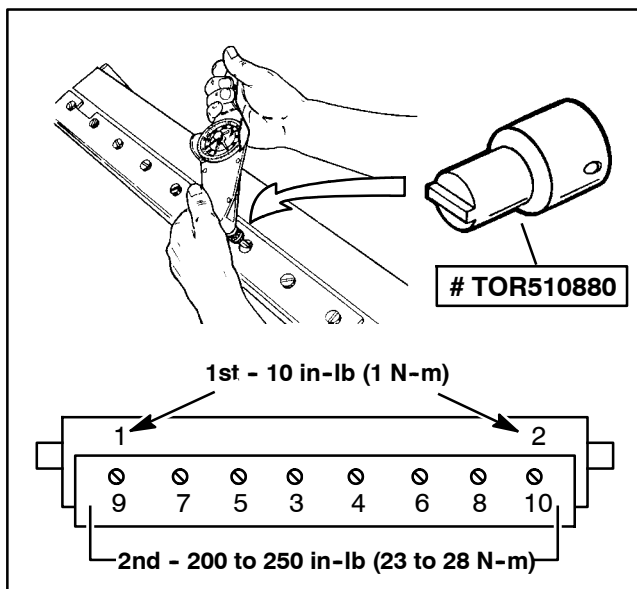

Figure 30
6. Working from the center of the bedknife toward each end (Fig. 30), tighten screws from **200 to 250 in-lb (23 to 28 N-m)**.